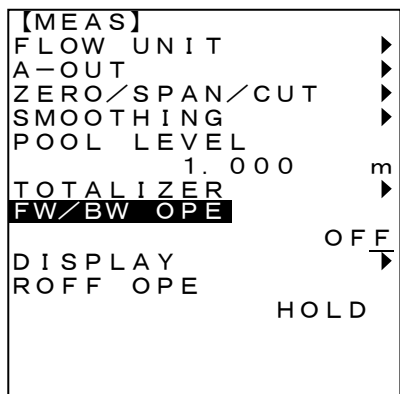

Fig. 4-7-13 Selection of FW/BW OPE
1. Move the cursor to FW/BW OPE with the <8/↑> or <2/↓> key and press the <ENT> key. (Fig. 4-7-13)